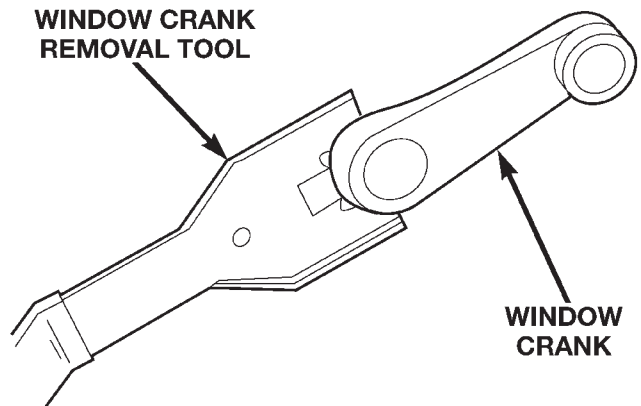

Fig. 27 Window Crank
- (1) Disconnect battery
- (2) Open door.
- (3) Disconnect main wiring harness at door opening.
- (4) If equipped, remove window crank (Fig. 27).